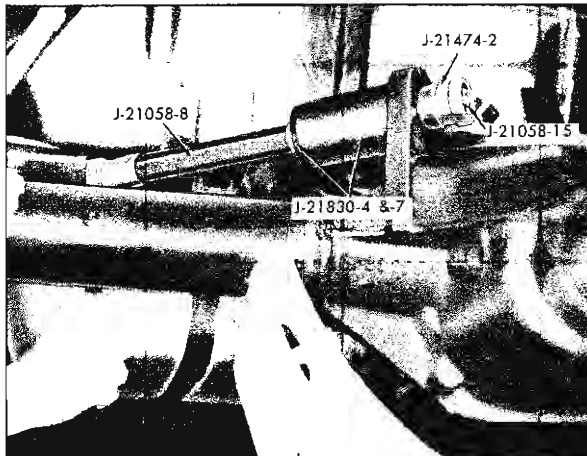

Fig. 29—Carrier Mounted Suspension Bushing Removal (Light-Duty)
- b. Install Receiver J-21830-4, Bridge J-21830-7, Thrust Bearing, and Nut J-21058-8 (in that order) onto puller screw. Refer to Figure 29 for installed view of tools.